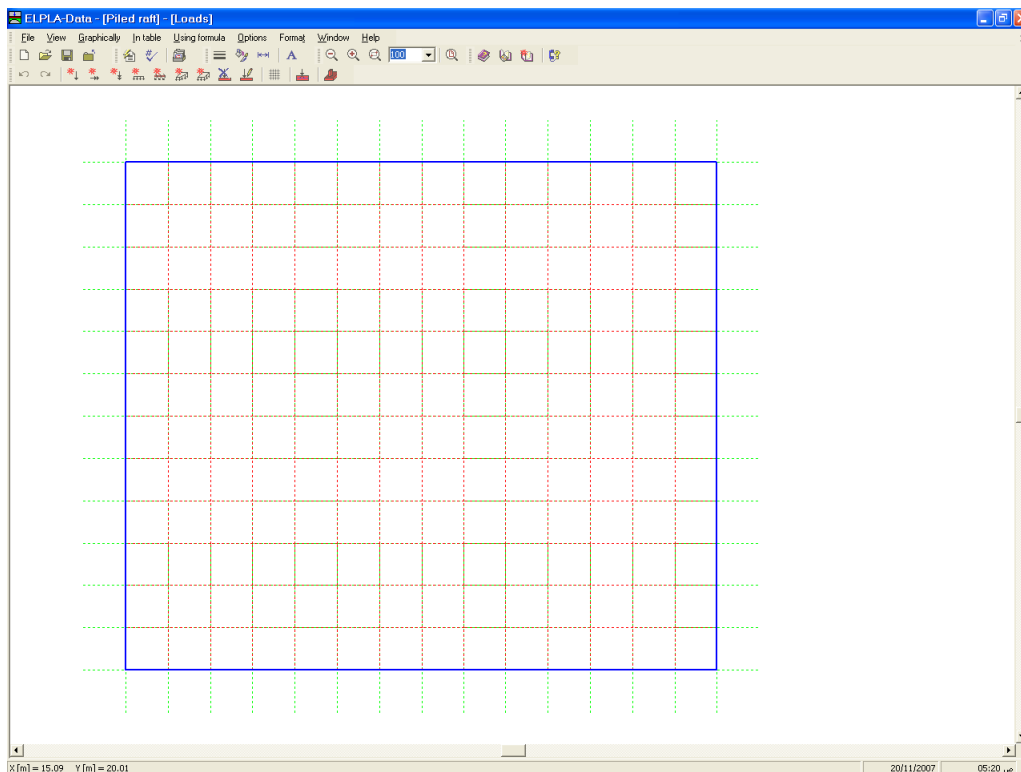
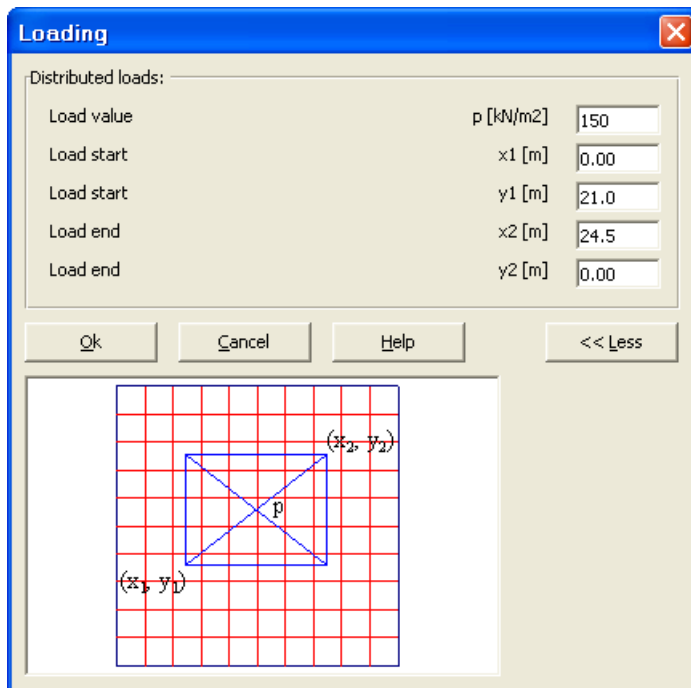

Figure 12-28 "Loads" embedded program
Figure 12-29 "Distributed loads p " list box
To define the loads, choose "Loads" command from "Data" menu of *ELPLA-Data*. The following embedded program in Figure 12-28 appears.
- Choose "Distributed load (rectangular)" command from "Graphically" menu in the window of Figure 12-28. When "Distributed loads (rectangular)" command is chosen, the cursor is changed from an arrow to a cross hair. Then, the load can be defined by holding the left mouse button down at the starting point of the distributed load. As the mouse is dragged, a box appears, indicating a distributed load is being defined. When the left mouse button is released, the following dialog box in Figure 12-29 appears with the load value and coordinates